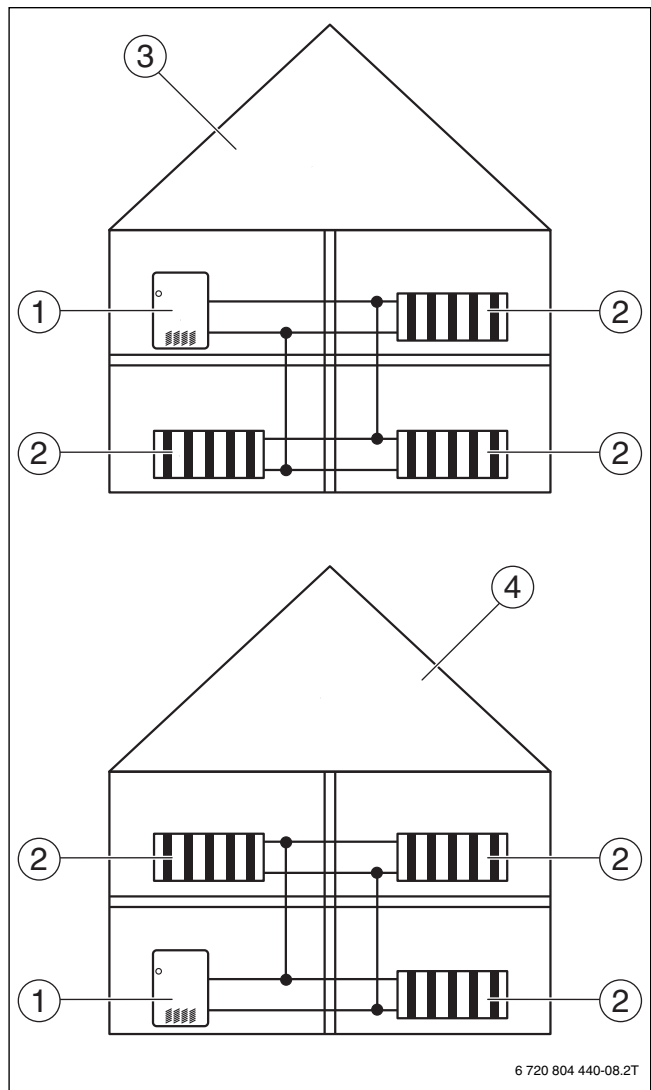

Fig. 8 Low-water cut-off installation
- ▶ Note that a boiler installed above the level of the heating system must be equipped with a low-water cut-off. The low-water cut-off must be installed during installation of the boiler and placed above the water level in the boiler without any means of shutting the water off between the boiler and low water cut-off (→ figure 8).